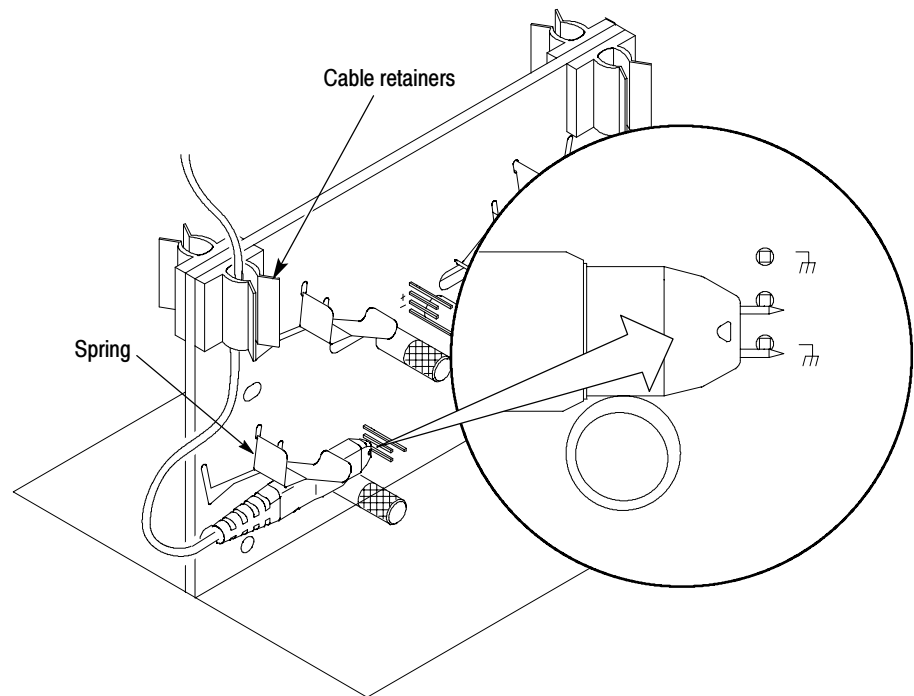

Figure 13: P6246, P6247, P6248, P6330 or P7330 fixture connections
2. Insert the probe body flush to the board between the adjacent spring and guide post. See Figure 13 on page 15.